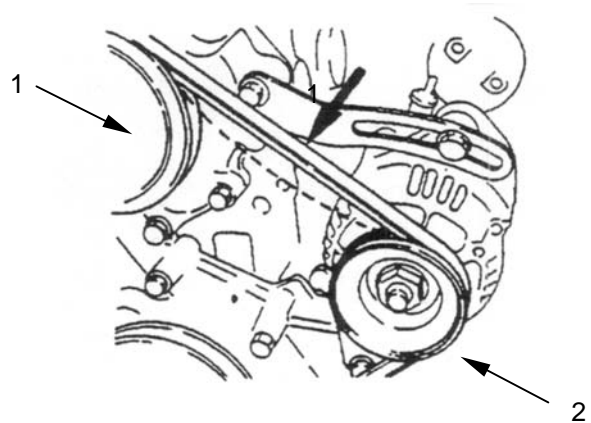

Figure 25. Fan belt adjustment
- r. Check the drive belt tension between the fan pulley (**figure 25, item 1**) and the generator pulley (**figure 25, item 2**). Ensure belt has ¼-inch deflection at the center between the two pulleys.